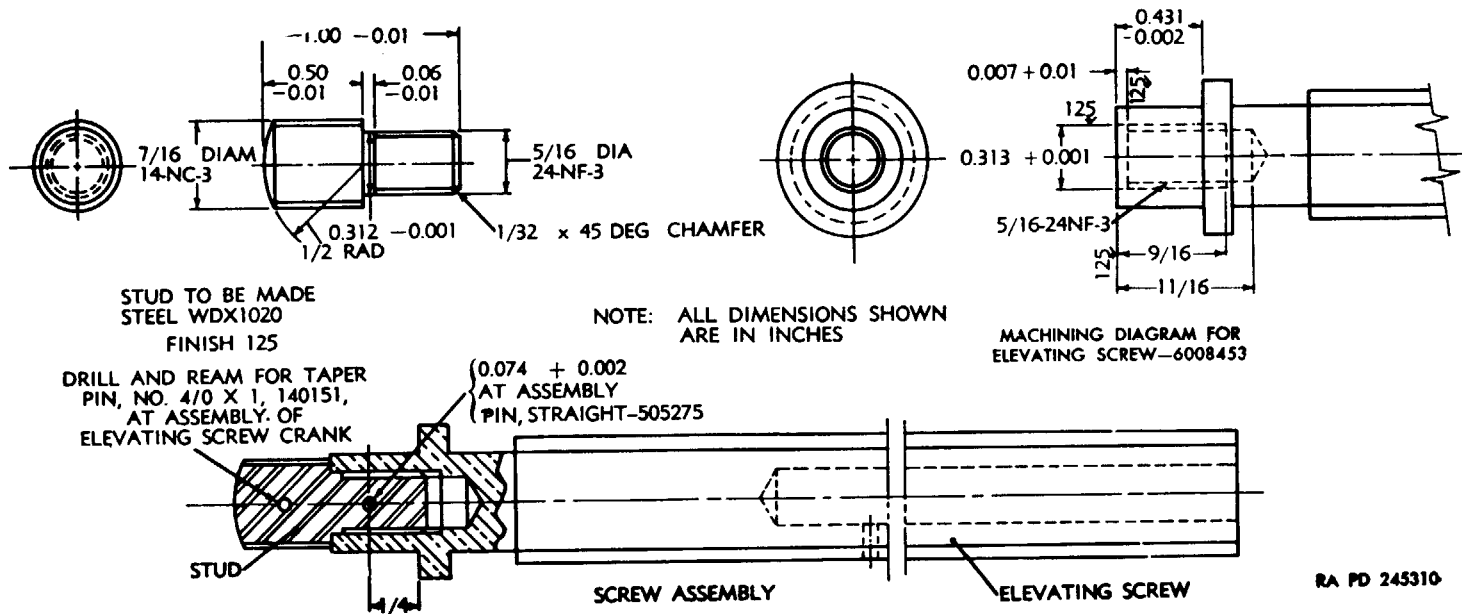

Figure 25. Repair of elevating screw 6008453.
- e. Breakage of elevating screw near the crank can be corrected as outlined in (1) through (3) below.
- (1) Machine broken end and drill and tap (fig. 25).
- (2) Fabricate stud to given dimensions (fig. 25).
- (3) Assemble stud to screw and secure with straight pin (fig. 25).